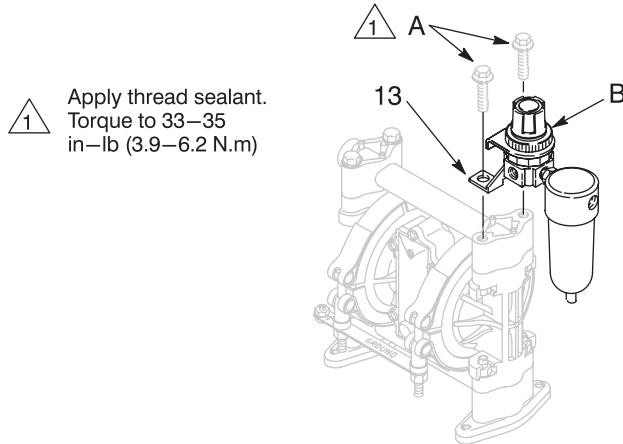

FIG. 1
1. Remove both screws (A) from the top of the pump. Secure the mounting bracket (13) of the regulator assembly (B) to the pump. (FIG. 1)